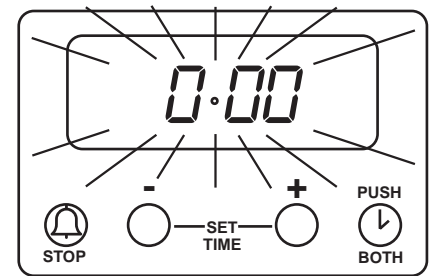
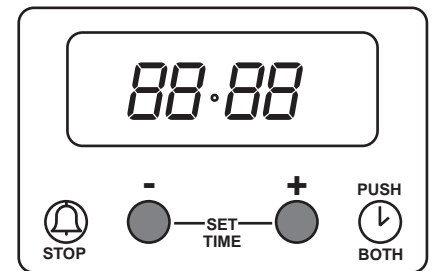
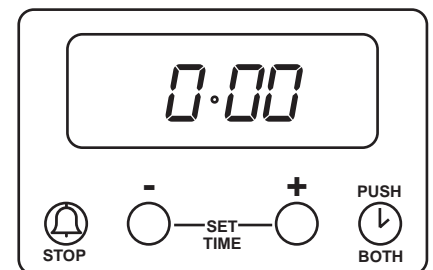

Fig. 2
Fig. 3
Fig. 4
Press buttons (1) and (2) together. The display will momentarily read **88.88**. See Fig. 2. Release buttons, **0.00** will appear in the display as Fig. 3. **Within 5 seconds** press button (2), **12.00** will show in the display as Fig. 4.